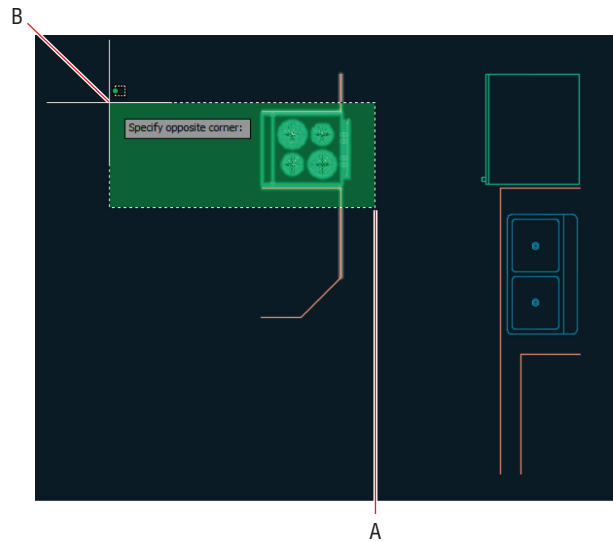

FIGURE 6.30 Stretching isolated objects
3. Click the **Stretch** button in the **Modify** panel. Make a crossing selection from point A to B, as shown in Figure 6.30, and press **Enter**. Toggle on **Ortho** mode if it is not on already. Click an arbitrary first point, move the cursor downward a short distance to establish the vertical direction for the **STRETCH** command, type **12** (30 in metric), and press **Enter**.